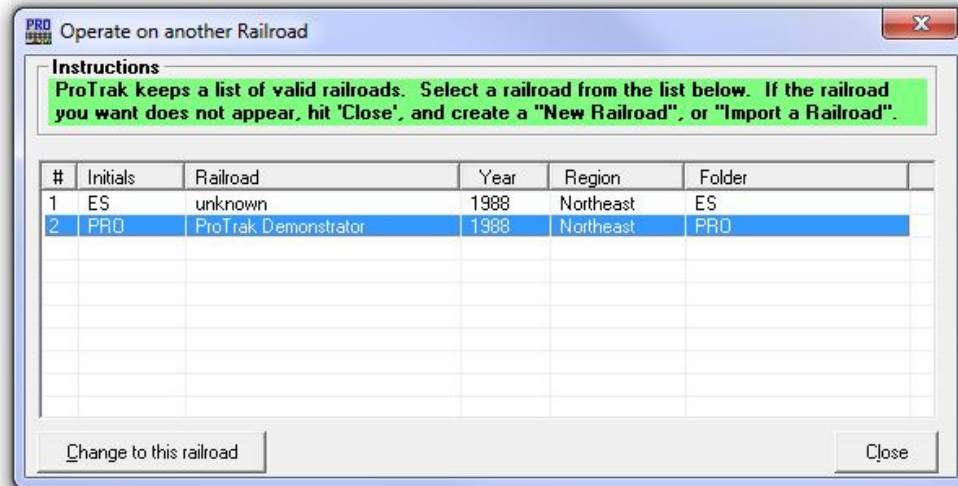

Figure 1-5
8. You will notice that there are only two railroads listed here, ES ⁽³⁾ and PRO. ES is the sample railroad that is provided with ProTrak. If you previously have started to create a railroad, that railroad may also be displayed. In any case, the railroad we want to work with is PRO so first click on the line showing the ProTrak Demonstrator railroad - line 2 in this case (see Figure 1-5).